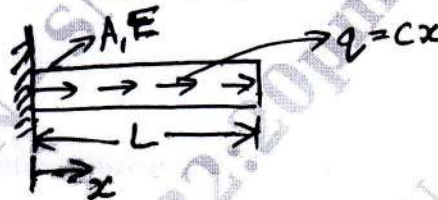

Fig Q2(c)
- c. A bar of length L , cross-sectional area A and modulus of elasticity E , is subjected to distributed axial load $q = cx$, where C is a constant as shown in Fig Q2(c). Determine the displacement of the bar at the end using Rayleigh-Ritz method.